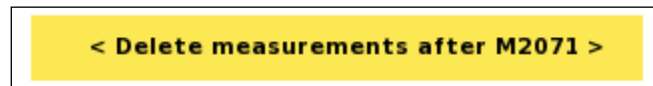

Figure 62 Delete data points Option menu
- Highlight “<Delete measurements after Mxxxx>” (Mxxxx represents a measurement id) (Figure 62)